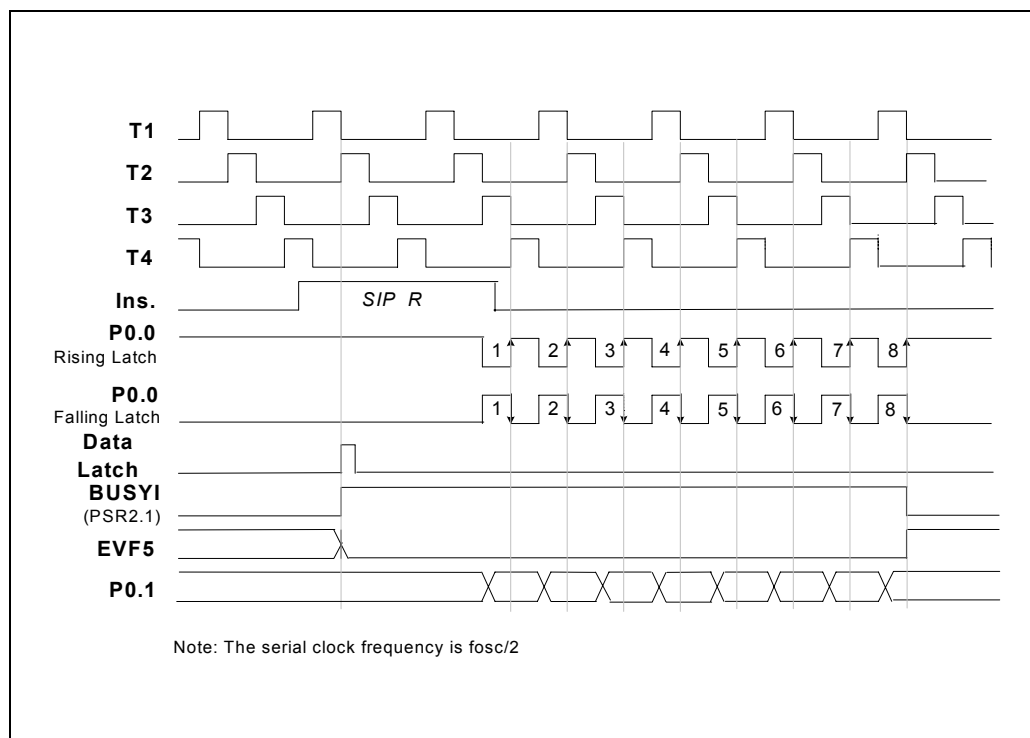

Figure 5-12. Timing of the Serial Input Function (SIP R)
- (1) **When in the first time the SIP R instruction is executed, the data will be loaded to the ACC and RAM from the serial input buffer. But this data is not meaningful, it is used to enable serial port.** There are two methods to get the serial data, one is interrupt and the other is polling. When enable the serial input, the bit 1 of port status register 2 (PRS2) will automatically be set to "1" ( $BUSY_1 = 1$ ). Then the P0.0 pin will send out 8 clocks or accept 8 clocks from external device and the data from the P0.1 pin will be loaded to SIB buffer at the rising or falling edge of the P0.0 pin. After the 8 clocks have been sent,  $BUSY_1$  will be reset to "0" and EVF.5 will be set to "1." At this time, if IEF.5 has been set ( $IEF.5 = 1$ ), an interrupt is executed then the SIP R instruction can get the correct data from the serial input buffer (SIB), **low nibble of SIB moves to ACC register and the high nibble moves to RAM**; if HEF.5 has been set ( $HEF.5 = 1$ ), the hold state is terminated. The polling method is to check the status of PSR2.1 ( $BUSY_1$ ) to know whether the serial input process is completed or not. If a serial input process is not completed, but the SIP R instruction is executed again, the data will be lost. The timing is shown in Figure 5-12.